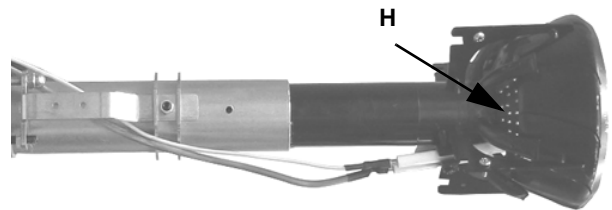

Fig. 49
- 4 Disconnect the connector **CR** (Fig. 49).
To remove the head, the operator must pull it towards himself. Once the combustion head is removed, check that the air and gas holes are not obstructed (Fig. 49 - **H**). Clean the combustion head by a compressed air blow or, in case of scale, scrape it off by a scratchbrush.